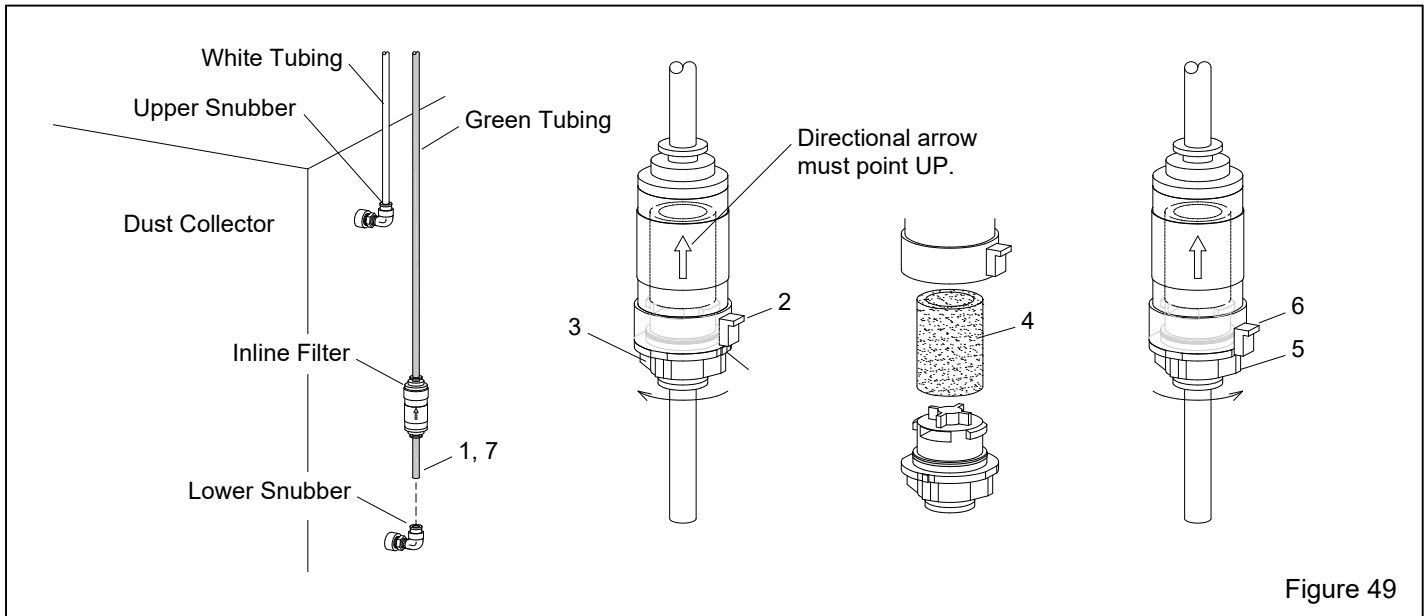

Figure 49
7.15 Clean Dust-Collector's Inline Filter – Figure 49
7.15.1 To avoid cartridge pulsing during cleaning, make sure power is OFF (red pushbutton is pressed). Refer to the matching step numbers in Figure 49 and clean the filter as follows:
7.16 Clean Dust-Collector's Snubber Fittings Figure 49